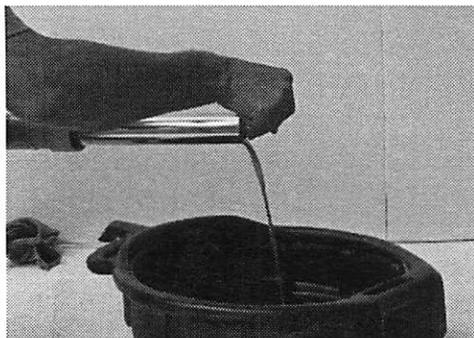

Figure 5.13
2. Invert the fork over an oil drain pan. Keep your finger over the end of the cartridge stem, otherwise the cartridge valve may fall out. (Figure 5.13)